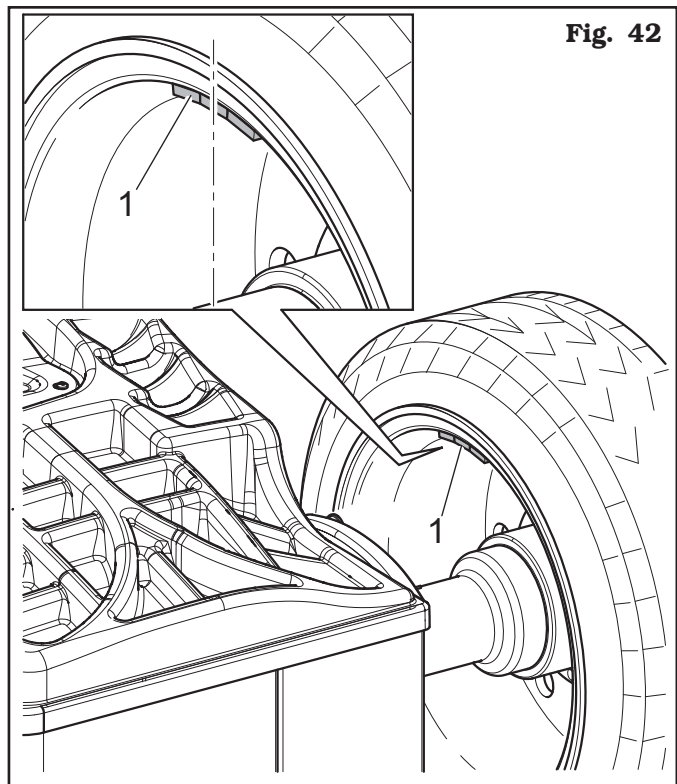

Fig. 42
The adhesive weight on the inner side of the wheel. The inner side weight must be positioned **by hand on the vertical – at 12 o'clock** (see Fig. 42 ref. 1).